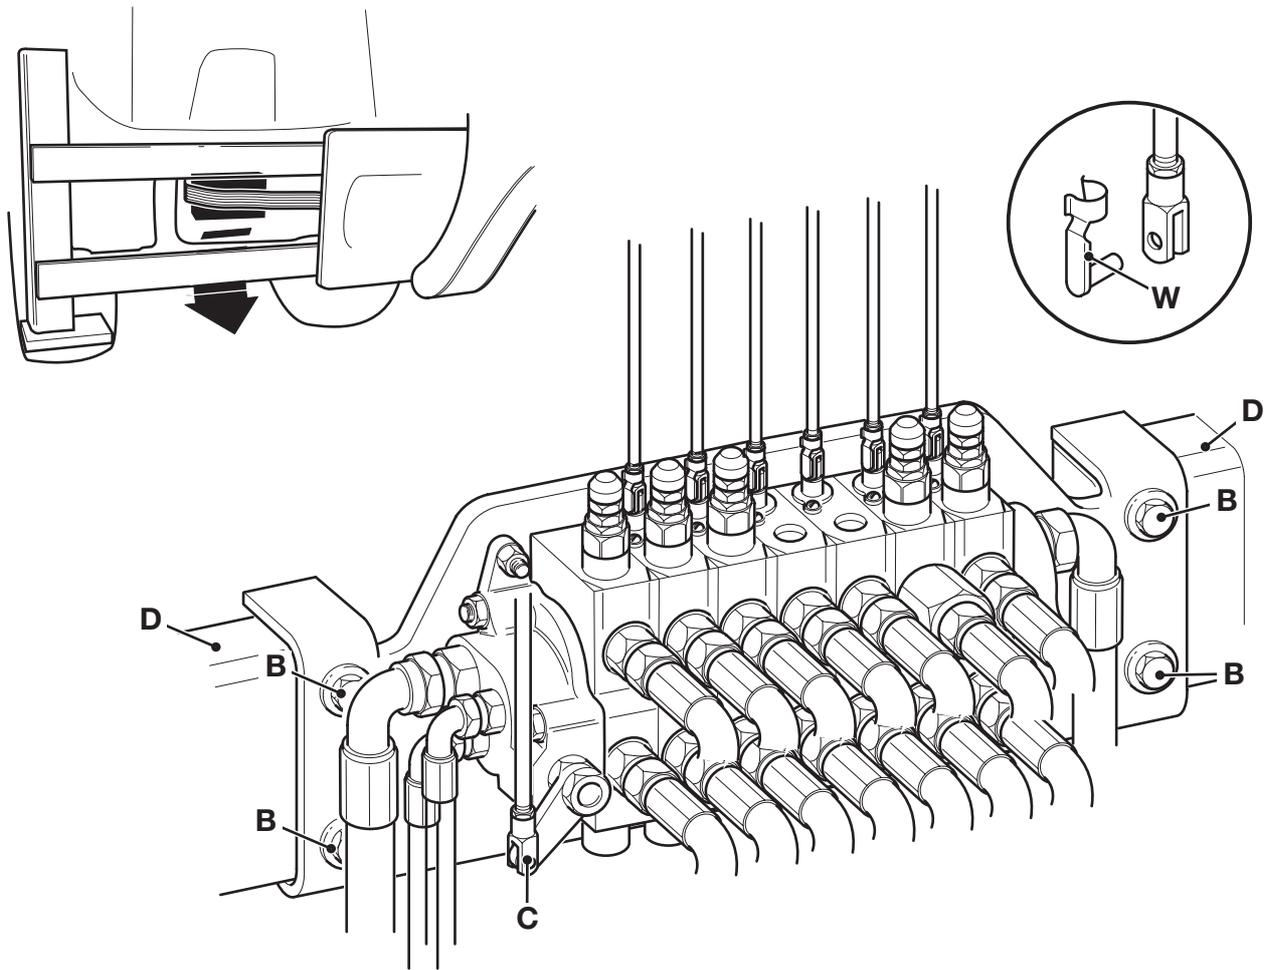

Fig 195.
- 2 → Fig 195. (□ E-235). Remove the clevis pin **C** and disconnect the hydraclamp control rod.